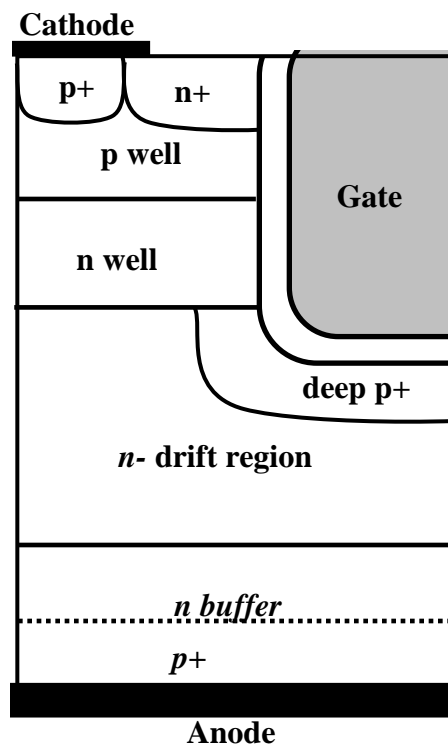

Fig. 2
- 3 The structure in Fig. 2 is a MOS controllable power device with a trench gate.